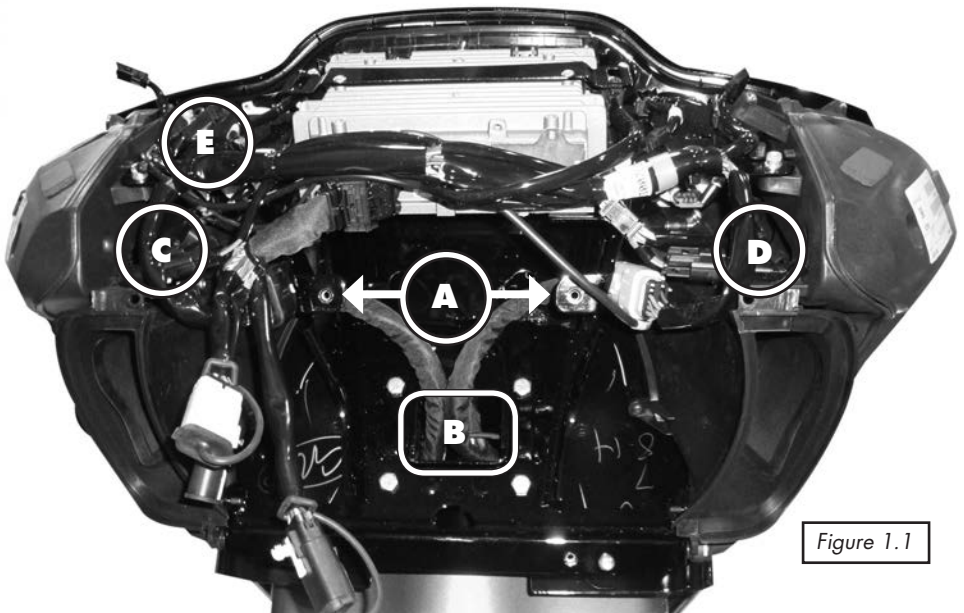

Figure 1.1
Before proceeding, please locate the points in the fairing identified by the letters in Figure 1.1.
- Step #5: MOUNTING THE AMPLIFIER. The holes on the front of the amplifier plate will mate to the holes that hold the factory headlight assembly to the bike. These are the holes shown as “A” in figure 1.1. Once you have the amp/plate in place, use the factory bolts to temporarily hold the amp/plate in place. No one wants the amplifier to fall on your fender by accident!
- Step #6: WIRING THE AMPLIFIER. As shown by “C” in Figure 1.1, on the brake side of the bike, you will see a 2 pin connector with pink/pink with black stripe wires going through it. The plug is close to where the wires enter the brake side speaker cabinet. Separate the connector so you now have 2 plugs. From the amp, take the plug with blue/black wires and plug it into the mating plug you just separated noting it will only go in one way. Also from the amp, take the plug with green/black wires and plug it into the mating plug you just separated noting it will only go in one way.
- Step #7: As shown by “D” in Figure 1.1, on the clutch side of the bike, you will see a 2 pin connector with pink/pink with black stripe wires going through it. The plug is close to where the wires enter the clutch side speaker cabinet. Separate the connector so you now have 2 plugs. From the amp, take the plug with brown/black wires and plug it into the mating plug you just separated noting it will only go in one way. Also from the amp, take the plug with yellow/black wires and plug it into the mating plug you just separated noting it will only go in one way.
- Step #8: In the area of “E” in Figure 1.1, there is a factory 2 pin plug with purple/blue stripe and a black wires. You may have to pull back the sheathing to properly identify this plug. From the factory, the plug your looking for has a empty connector in it that will need to be removed. Once removed, the orange wire on the amp’s power harness will plug into this factory plug. The orange wire is the amps “turn on” lead and tells the amp to turn on or off with ignition on/off. The amp will not turn on if this wire is not installed to the factory plug (or any other B+ switched power source).
The balance of the power harness will exit the inner fairing and go towards the frame of the bike through the “wire passage from fairing to bike” as shown by “B” in Figure 1.1.